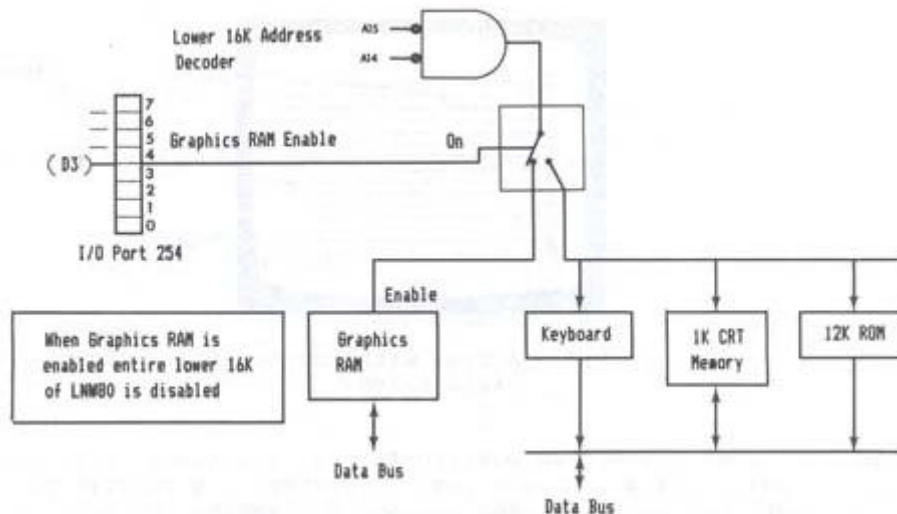

Figure 7.9 - Memory bank switching diagram
I/O port 254, data bit 3 (D3), selects which block of memory is enabled in the lower 16K. With D3 on (1), the graphics memory is enabled. With D3 off (0), the keyboard, video RAM, 12K ROM and anything else which might be mapped in the lower 16K of address space are enabled. Figure 7.9 illustrates this bank switching operation.